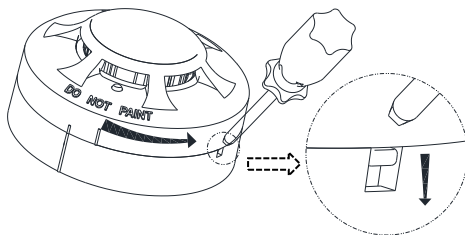

Fig. 1: Disconnect detector head from the backbox
1. Remove the audio/visual alarm device from the backbox using a small screw driver to disable to latch, then twisting the device counter-clockwise (see Fig. 1).